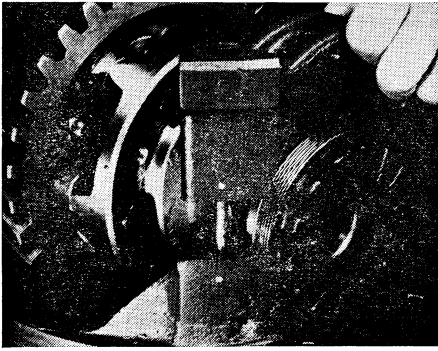

Fig. 67 Start bearing caps in correct location as marked and tap lightly into position
4. Start bearing caps in correct location as marked and tap lightly into position, Fig. 67. If bearing caps do not position properly, adjusting nuts are cross-threaded. Remove caps and reposition them. Forcing caps into position will result in serious damage to carrier housing.